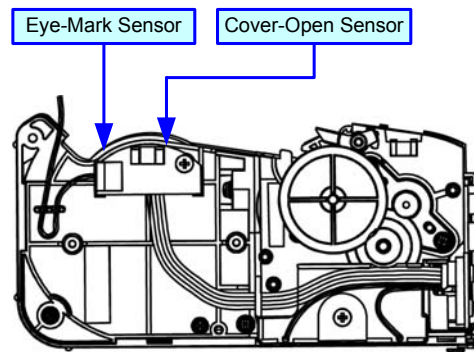

Figure 7-10b, Cover-Open Sensor Replacement
- 9 Route the sensor wiring harness (Figure 7-10b).